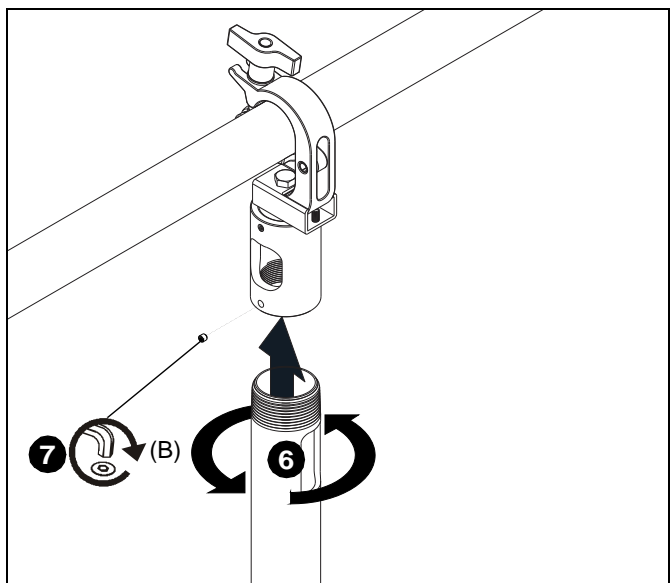

Figure 4
6. Install 1-1/2" NPT or NPSM following ANSI/ASME B1.20.1 (Schedule 40, 0.154" minimum thickness steel or aluminum - ASTM B221) threaded extension column (not included) into threaded collar until tight, with a minimum of four threads engaged. (See Figure 4)
7. Use 5/16" security set screw (B) to secure column. (See Figure 4)